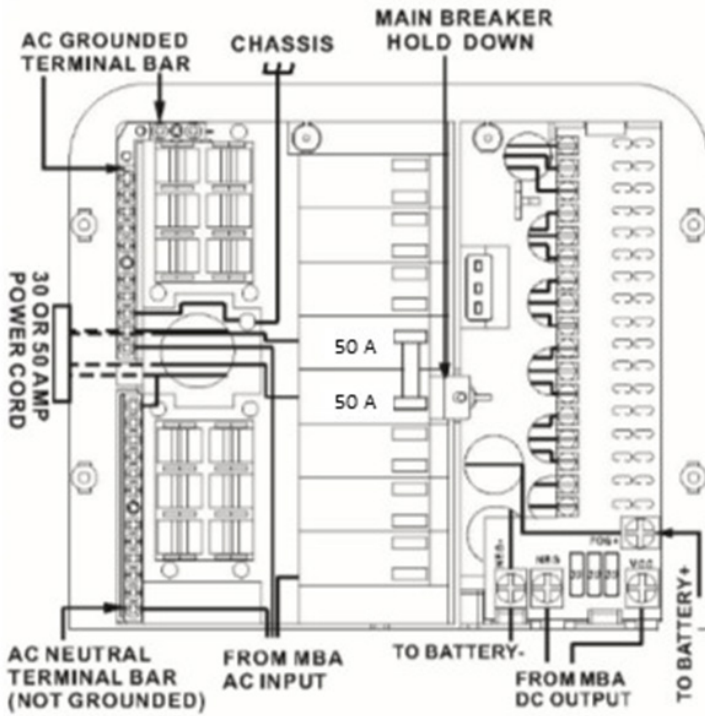

Figure 6
** Make sure no AC power is coming into the RV from either the Shore Power cord or an n-board generator. Determine the proper size breakers for the loads the WF-9500 Series will be powering. You can use either single or duplex breakers, or a combination of both. We recommend that all the breakers used be of the same brand. When using duplex style circuit breakers, a total of fourteen (14) breakers can be mounted in the WF-9500 Series Power Center, two (2) Main breakers and twelve (12) Branch breakers. Refer to the tables on pages 5 and 6 for a selection of approved breakers. The Main breaker should be a 2-pole, 50 Amp type and should be installed in the center position (See Figure 6 on page 13). A hold down clip is provided to keep the breaker securely in place.
The 50 Amp power cord is routed through the largest knockout in the wiring compartment and secured with a listed strain relief clamp. A 50 Amp power cord has 4 leads: Black (HOT1), Red (HOT2), Neutral (White), and Ground (Green). The Black (HOT1) wire is connected to one side of the 2-pole 50 Amp Main breaker as shown in Figure 6 on page 13. The Red (HOT2) is connected to the other side. The White (Neutral) wire is connected to the Neutral Terminal bar at the bottom left of the wiring compartment. The Green (Ground) wire is connected to the Ground Terminal bar located at the top left of the compartment.